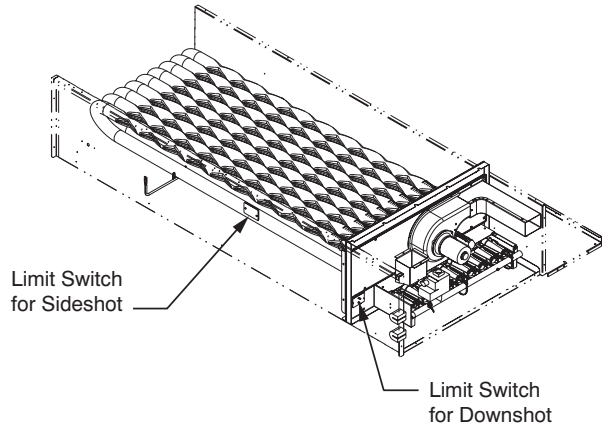
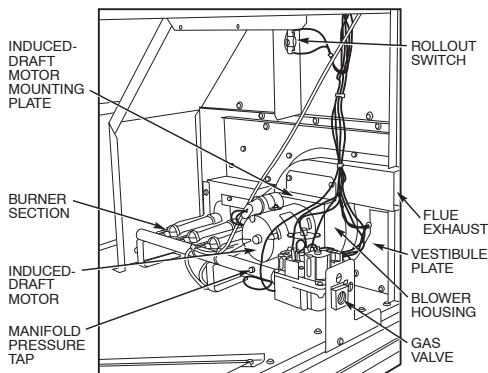
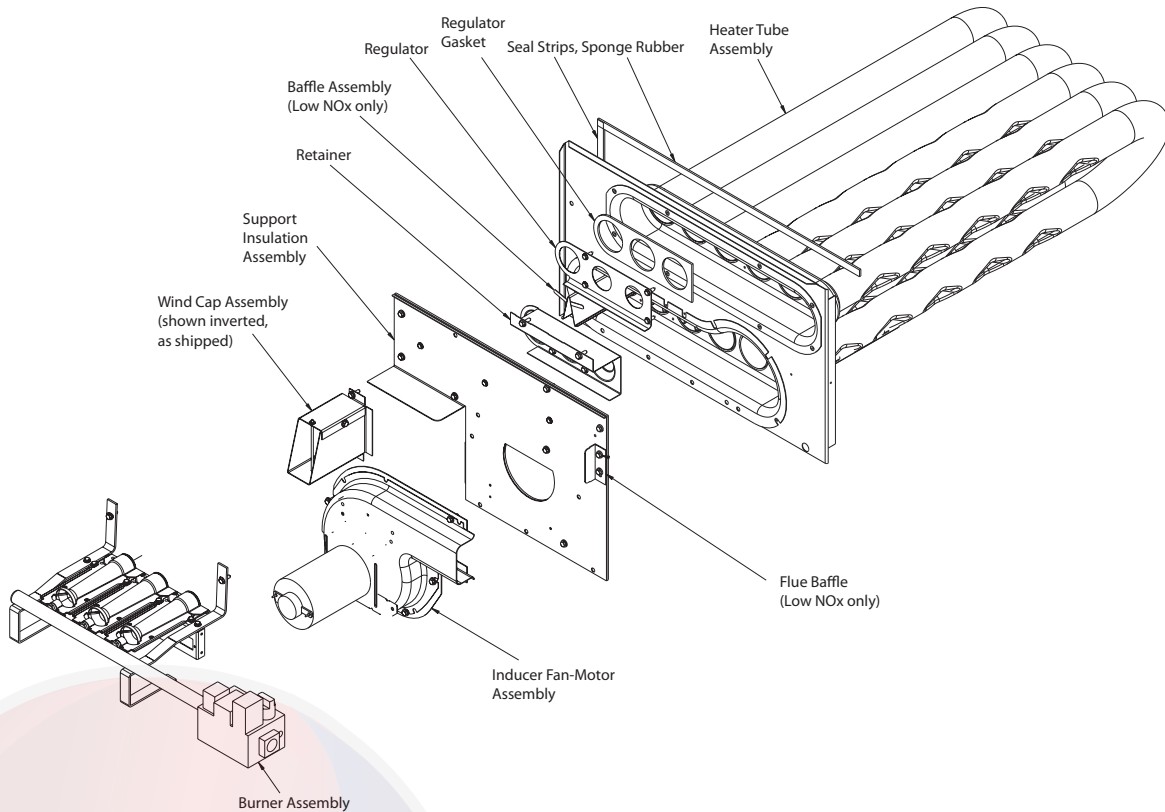

Fig. 46 - Limit Switch Location
Fig. 45 - Burner Section Details
Fig. 49 - Heat Exchanger Assembly
The heat exchanger system consists of a gas valve feeding multiple in-shot burners off a manifold. The burners fire into matching primary tubes. The primary tubes discharge into combustion plenum where gas flow converges into secondary tubes. The secondary tubes exit into the induced draft fan wheel inlet. The induced fan wheel discharges into a flue passage and flue gases exit out a flue hood on the side of the unit. The induced draft fan motor includes a Hall Effect sensor circuit that confirms adequate wheel speed through the Integrated Gas Control (IGC) board. Safety switches include a Rollout Switch (at the top of the burner compartment) and a limit switch (mounted through the fan deck, over the tubes). (See Fig. 45 and Fig. 46.)
1. Remove the combustion blower wheel and motor assembly according to directions in Combustion-Air Blower section. See Fig. 49.
2. Remove the seven screws attaching the induced-draft motor housing to the vestibule plate. (See Fig. 49.)
See Fig. 45, Fig. 49 and Fig. 51.